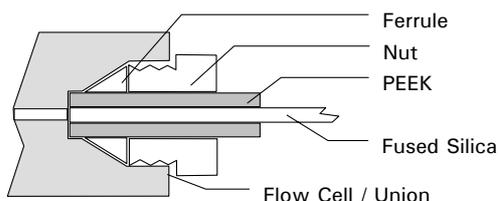

FIGURE C-5. Using a PEEK Sleeve
For connections with microflow cells other than the U-Z View Flow Cell, use the PEEK sleeve provided with the column. Use the PEEK sleeve and mount a nut and ferrule corresponding to the type of fitting (FIGURE C-5).
- a) Connect the outlet capillary of the column to the column bulkhead of the UltiMate system (Micropump) or to the outlet of the Acurate™ by using a PEEK sleeve connector (FIGURE C-5, P/N 160492).